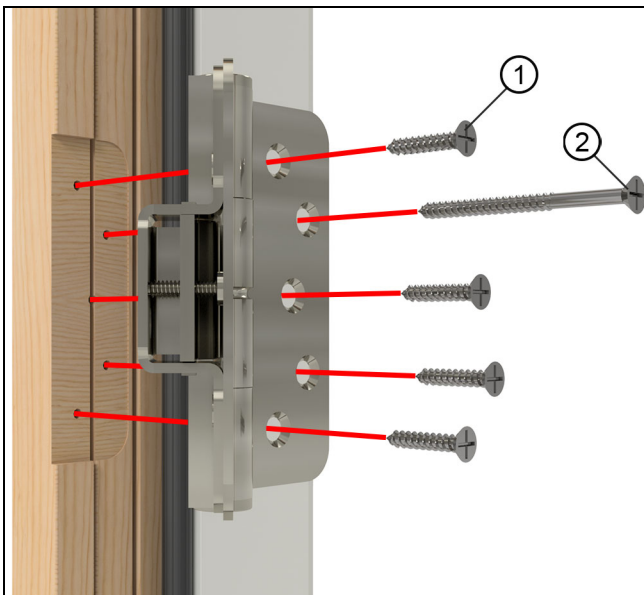

Figure 28
3. Insert jamb hinges into routs located on the jamb. Use #8 X 1-1/2" screws to secure the hinge to the jamb. See Figure 28. Repeat for all hinges.